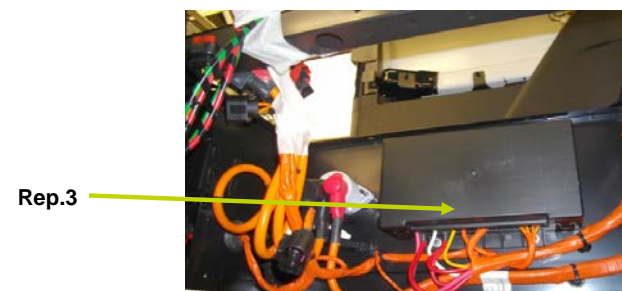
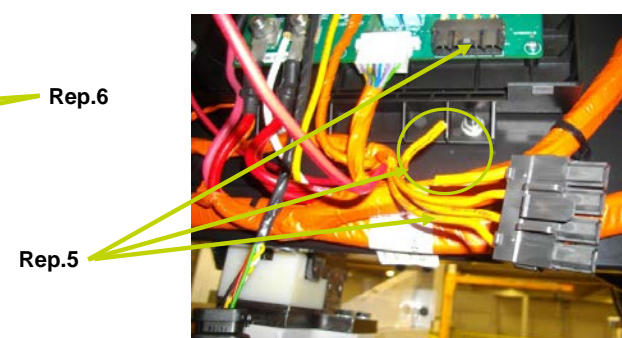

Fig.8
Fig.10
- Open relay/fuse plate casing inside battery pack compartment **(Rep 3)(Fig.8)**.
- Disconnect terminal in order to make the splice **(Rep 5)(Fig.10)** so as to connect the red wire of the kit **(Rep 3)(Fig.8)** onto the relay/fuse (see instructions below) .
- Cut wire n° 4 **(BC+)** using side cutters **(Rep 5)(Fig.10)**.